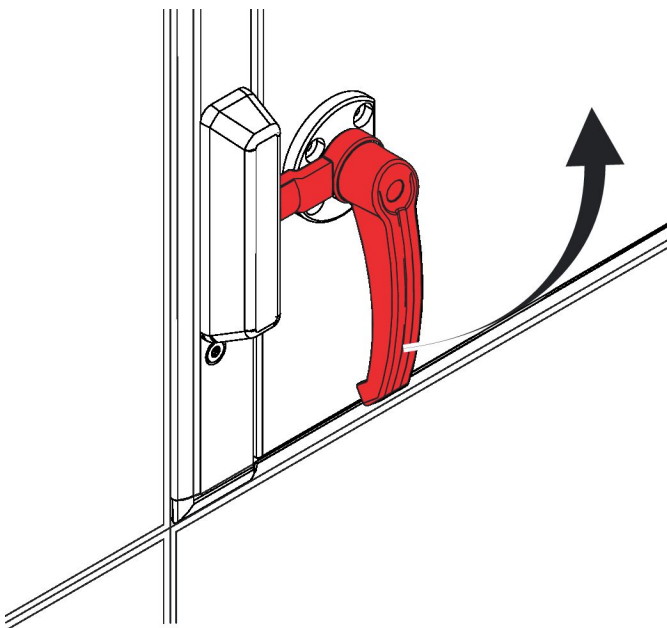

Fig. 15: Opening a door lock
- ▶ Turn the door handle anti-clockwise by 90° (Fig. 15).